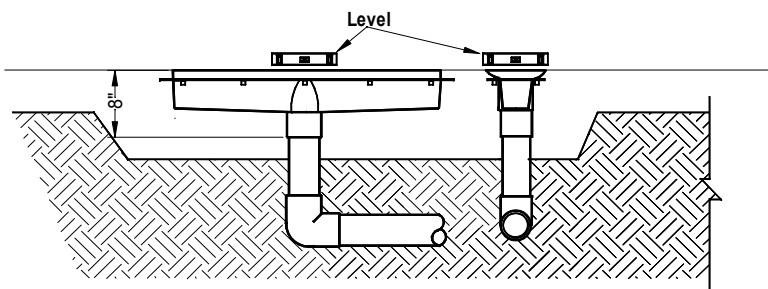

Figure 1
7. Make sure the Channel Drain is leveled and plumb in all directions (see Figure 1).